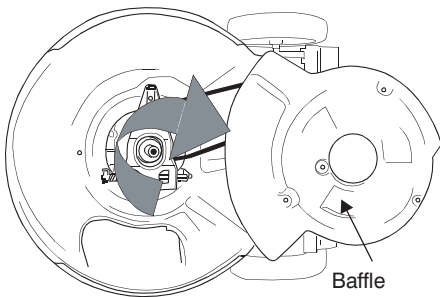

Figure 20
- Pivot baffle towards the rear of the mower. See Figure 20.